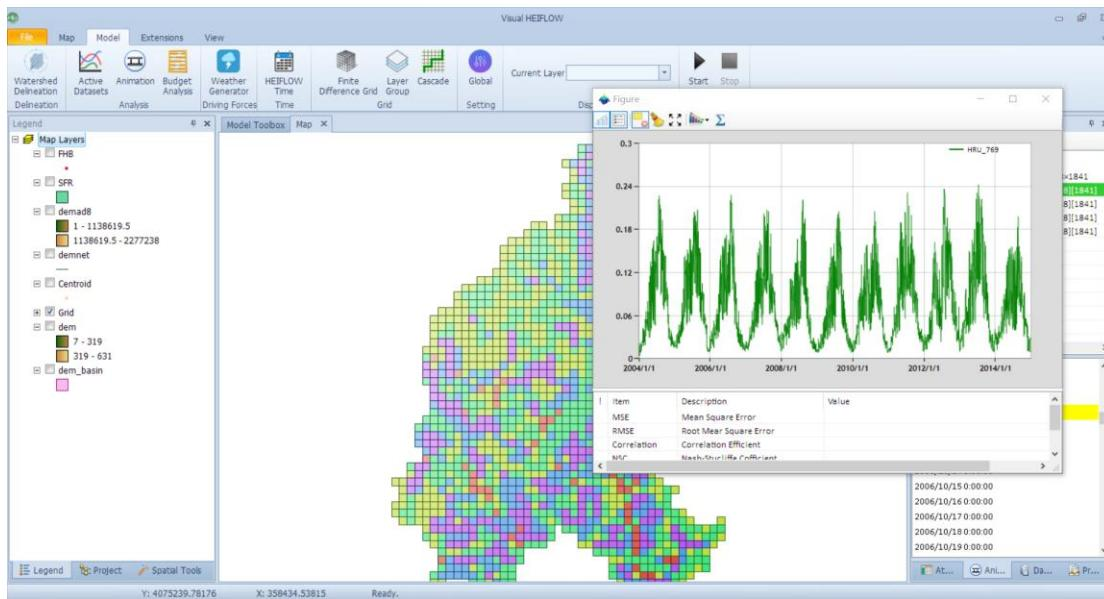

Figure 8-17. Simulate time series of actual ET at the HRU with ID 769.
- 6) Select Model -> Active Datasets in the Main Menu Bar, the cursor shape changes to a cross, meanwhile the Figure dialog appears. Left click on the map, then the simulated time series of actual ET is played in the Figure dialog (Figure 8-17).